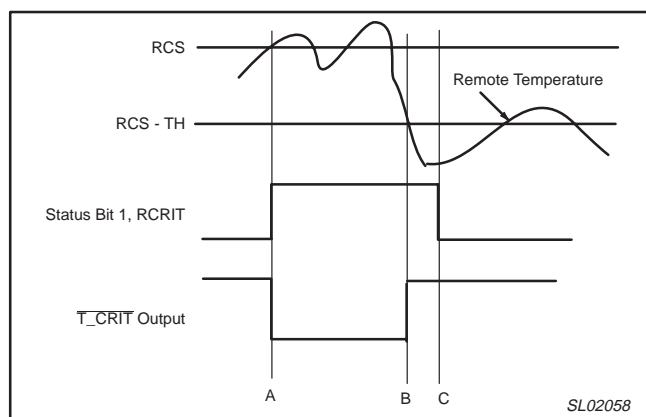

Figure 15. T_CRIT temperature response timing diagram
After every local and remote temperature conversion the Status register flags and the T_CRIT output are updated. Figure 15 is a timing diagram showing the relationship of T_CRIT output, Status bit 1 (RCRIT) and the remote critical temperature setpoint (RCS), and critical temperature hysteresis (TH) with remote temperature changes. Note that the T_CRIT output is de-activated only after the remote temperature is below the remote temperature setpoint, RCS minus the Hysteresis, TH. In the interrupt mode only, the Status register flags are reset after the Status register is read.